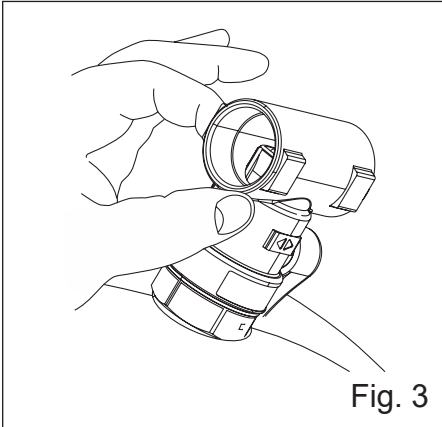

Fig. 3
3. Connect the $\frac{3}{4}$ " FBSP tee piece onto the anti legionella valve and tighten with a spanner, the connection is sealed by an oring so extra washers and PTFE tape are not needed. The tee piece remains rotatable through 360° when tightened (Fig. 3).